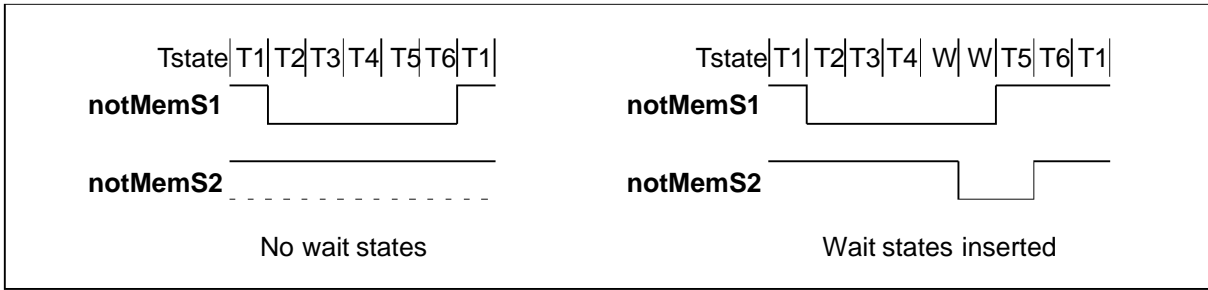

Figure 5.6 IMS T400 effect of wait states on strobes
**notMemS2**, **notMemS3** and **notMemS4** are identical in operation. They all terminate at the end of **T5**, but the start of each can be delayed from one to 31 periods **Tm** beyond the start of **T2**. If the duration of one of these strobes would take it past the end of **T5** it will stay high. This can be used to cause a strobe to become active only when wait states are inserted. If one of these strobes is configured to zero it will remain low during **T1–T5** and only go high during the first **Tm** of **T6**. Figure 5.6 shows the effect of **Wait** on strobes in more detail; each division on the scale is one period **Tm**.